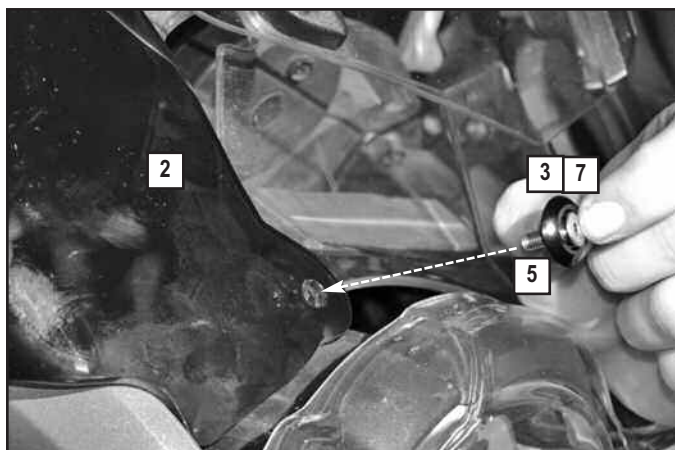

Figure 6
6. Insert Screw (6) into Cap with Washer (3,7). Install Winglet (2) using this assembly. **(3mm Hex Key) Figure 6**